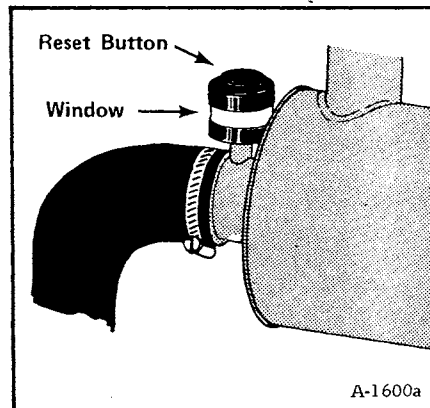

Fig. 1-6 Condition Indicator
- (1) Remove dirt from the dust cap as often as needed.
- (2) Remove the element only when it needs replacement. (When the red ring shows on the indicator.) (Fig. 1-6).
- (3) When changing the element, be sure to remove dirt from the housing. Check that the gasket is in place.
- (4) If the air cleaner has been damaged, inspect and make replacement of parts as needed.
- (5) Inspect condition of system: